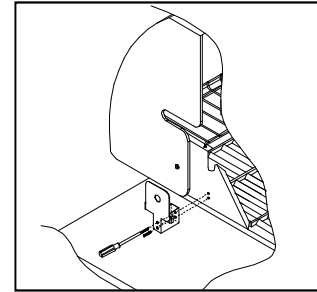

Fig. 1
1. Using screwdriver to screw (2) 14 x 10mm, attach the bracket to the left side of the grill in the 2 pre-drilled holes. (See Fig. 1)